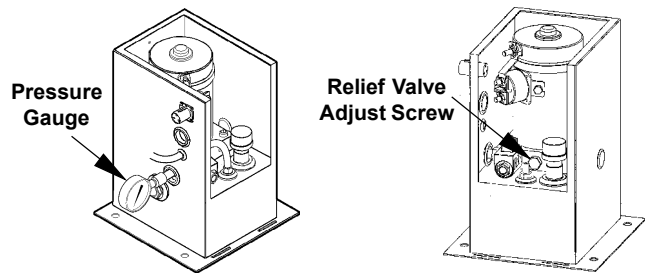

FIGURE 2
7. With Platform on the ground, remove the pressure hose and fitting from the Pump and replace it with a 0-3000 PSI Pressure Gauge. Hold the switch in the "UP" position. Adjust the Relief Valve on the side of the Pump until the gauge shows 2800 to 3000 PSI **(See Fig. 2)**.